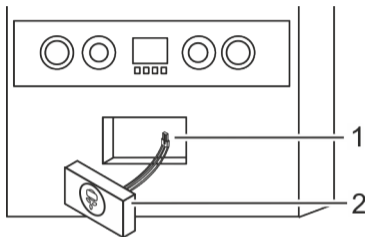

Fig. 9: Installing the actuator (receiver)
4. Install the assembled actuator (receiver) (Fig. 9/1) in the boiler.